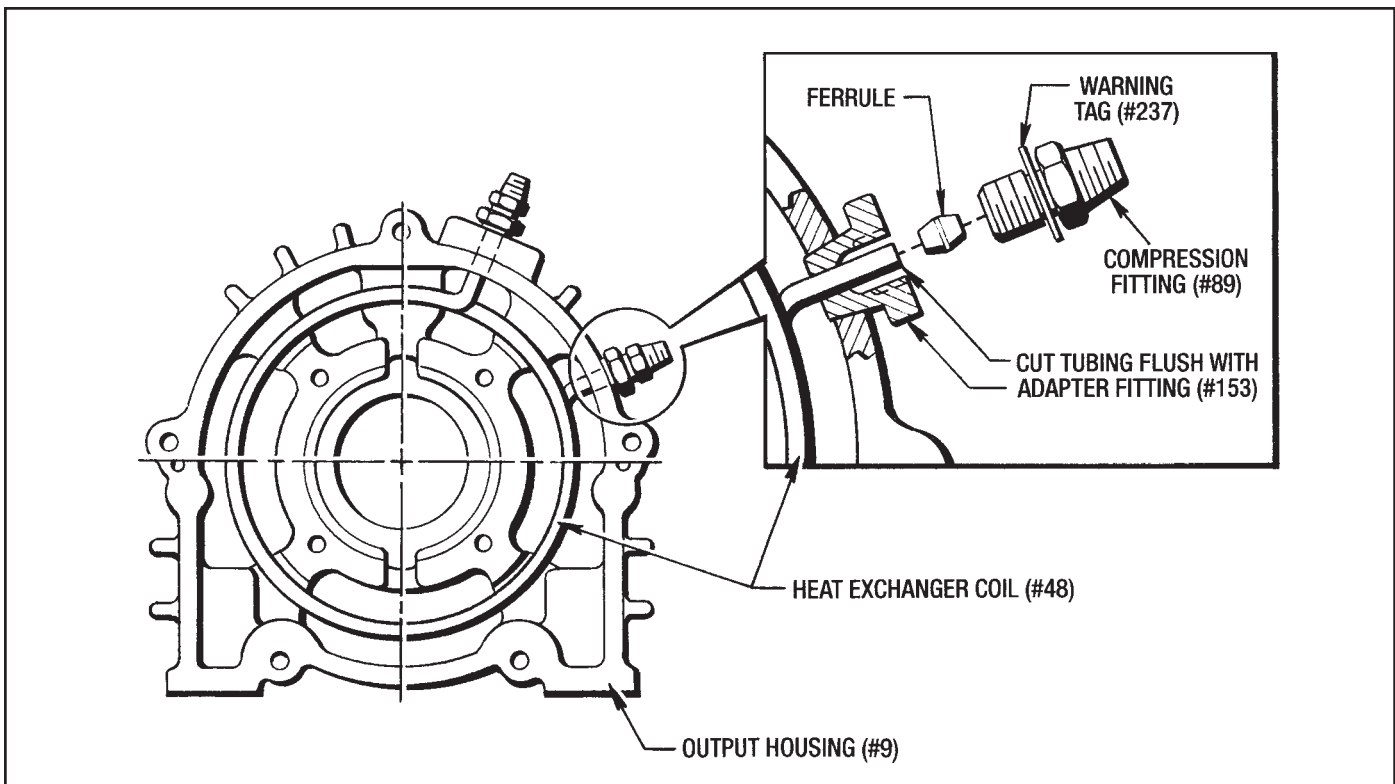

Figure 9.1 - Installing Heat Exchanger (#48)
(See Figures 9.1 and 10.1)
2. Slide the (2) Adapter Fittings (#153) over the tubing ends and screw them into the Output Housing (#9). **Use Pipe Dope on the pipe threads.**
3. Visually center the Heat Exchanger coil in the Output Housing (#9) and mark the tubing flush with the ends of each Adapter Fitting (#153). Cut both tubing ends off on your marks with a hacksaw as shown in *Figure 9.1*.